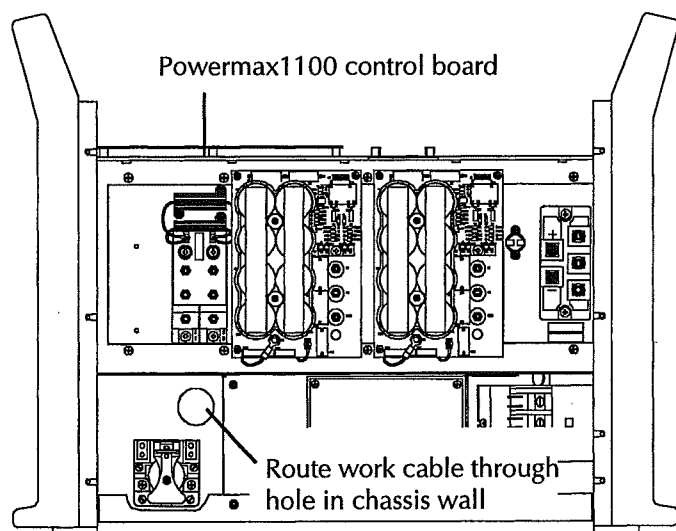

Figure 5 - Route Work Cable Through Chassis Wall
12. Route the work cable through the hole in the chassis interior wall - Fig. 5.